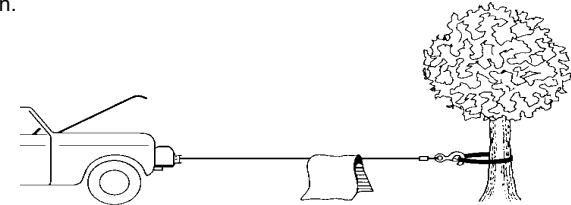

Fig. 5
10. It is a good idea to lay a heavy blanket or jacket over the wire rope near the hook end when pulling heavy loads (See Figure 5). If a wire rope failure should occur, the cloth will act as a damper and help prevent the rope from whipping. Raise the hood of the vehicle for added protection.